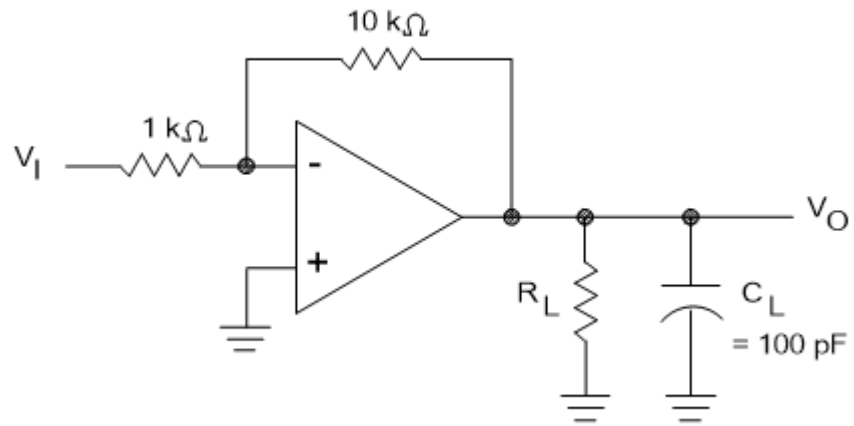

FIGURE 6. Gain of 10 inverting amplifier.
3.5.6 Gain of 10 inverting amplifier. The gain of 10 inverting amplifier shall be as shown in figure 6.